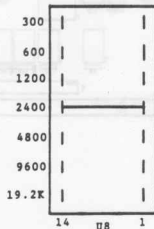

Figure 2-4. Remote I/O Baud Rate Selection
2.7.1.1 REMOTE I/O BAUD RATE SELECTION. The baud rate selection for the remote control device is accomplished by installing a jumper in the header U8 as shown in Figures 2-4 and 2-5. Labels beside U8 indicate the baud rate achieved by each jumper.